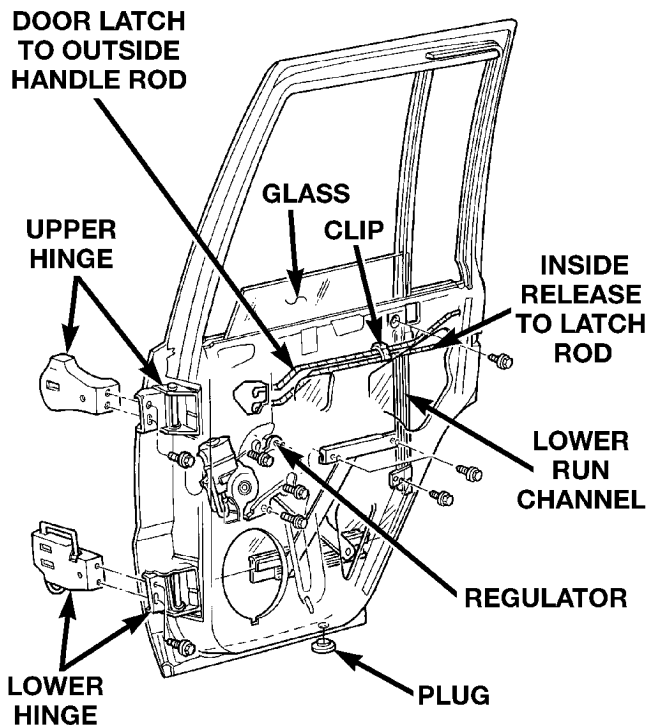

Fig. 29 Rear Door
- (1) Remove door trim panel.
- (2) Disconnect power window regulator, power door lock motor and all other wire harness connectors.
- (3) Slide wire harness out of boot and door.
- (4) Mark an outline around door hinges for installation alignment reference.
- (5) Remove door hinge, retaining bolts, plates and shims (Fig. 29). Remove door from vehicle.
- (6) Identify and retain door hinge plates and shims for correct installation.